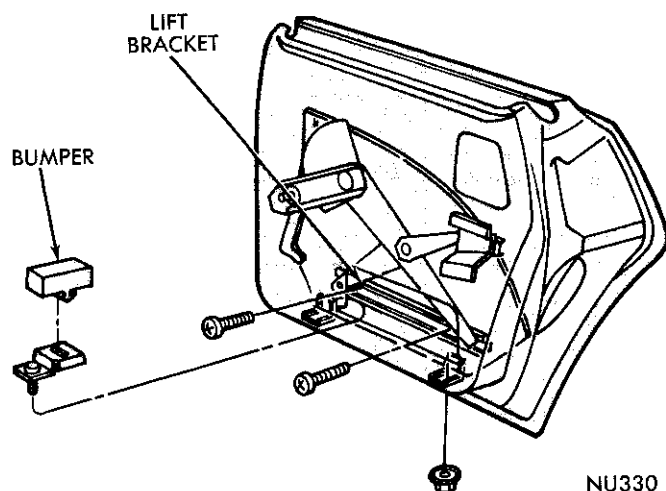
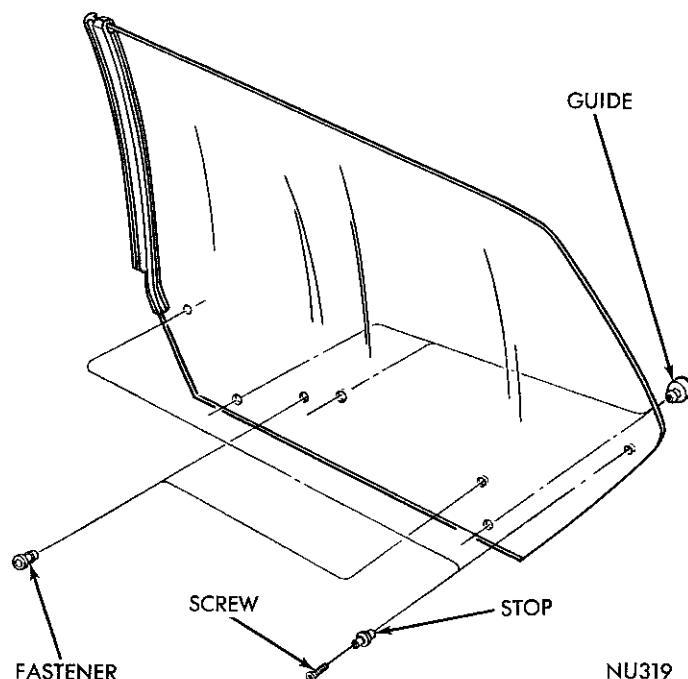

Fig. 62—Lift Bracket
Fig. 63—Door Glass Assembly
(4) Remove glass lift bracket to glass fastener screws (Fig. 62).
(5) Move track panel rearward, approximately four inches, and raise door glass to the full-up position.
(6) Raise track panel slowly until up-stop on glass (Fig. 63) are cleared through door.
The door glass to lift channel fasteners are a press fit in the glass (Fig. 63) as are the glass to track and guide fasteners. The glass up-stops are retained in the glass with screws.
The glass lift bracket (Fig. 62) is positioned over sliding blocks on the regulator arms. Screws are used to secure the lift channel to the glass fasteners. Lubricate the sliding block contact areas of the lift channel sparingly.